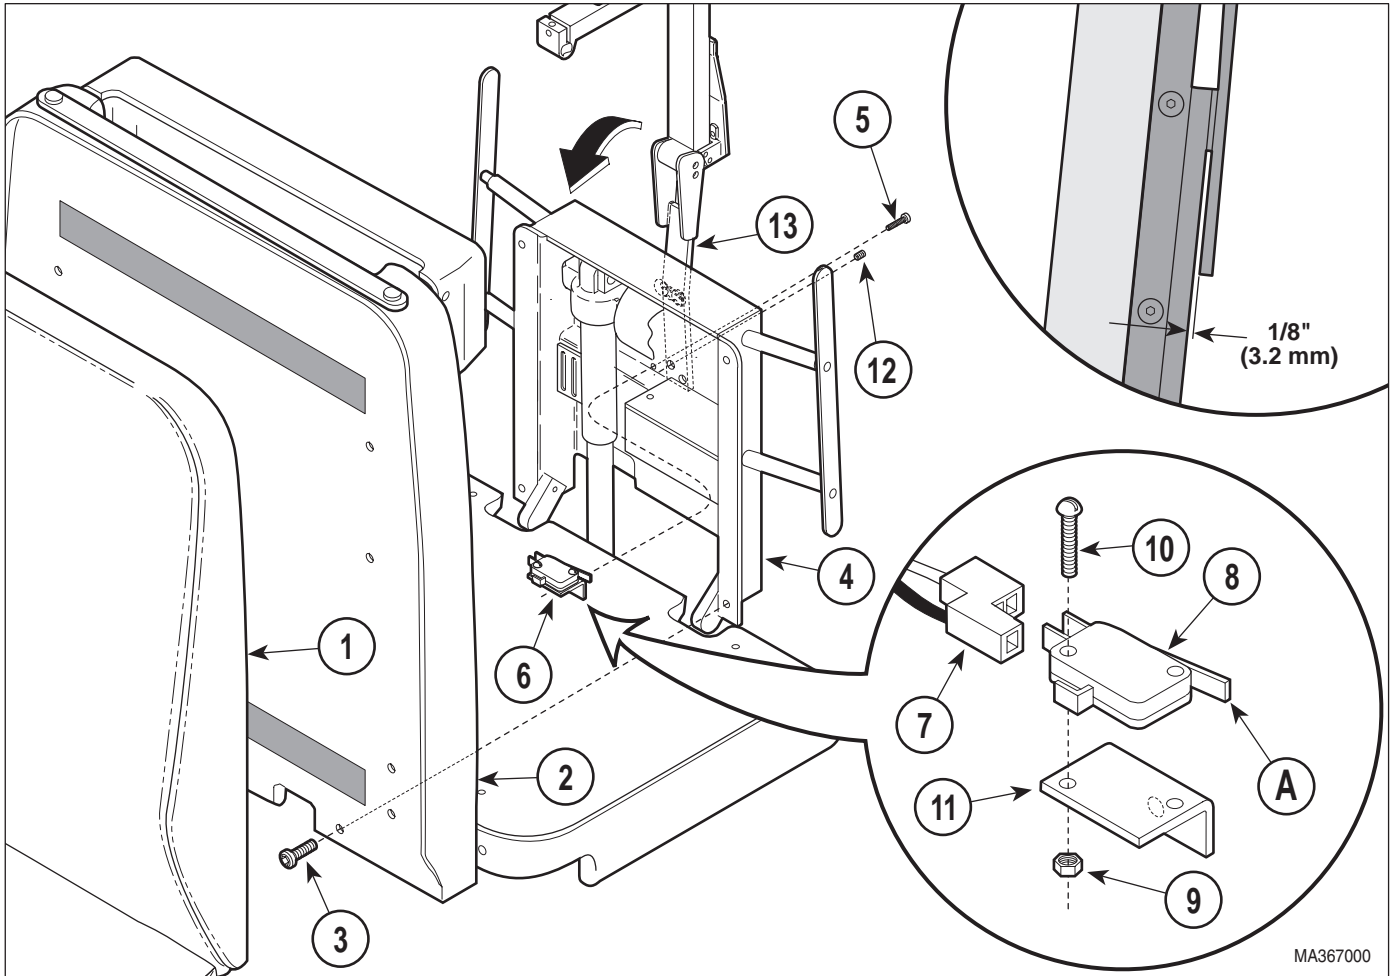

Figure 4-13. Headlock Limit Switch Removal / Installation / Adjustment
- (1) Unplug table power cord from outlet receptacle.
- (2) Remove upholstered back (1, Figure 4-13) from back board (2).
- (3) Remove four screws (3), and back board (2) from back weldment (4).
- (4) Remove screw (5) securing limit switch assembly (6) to back weldment (4).
- (5) Disconnect limit switch wire harness (7) from headlock limit switch (8).
- (6) Remove two nuts (9), screws (10), and headlock limit switch (8) from switch bracket (11).